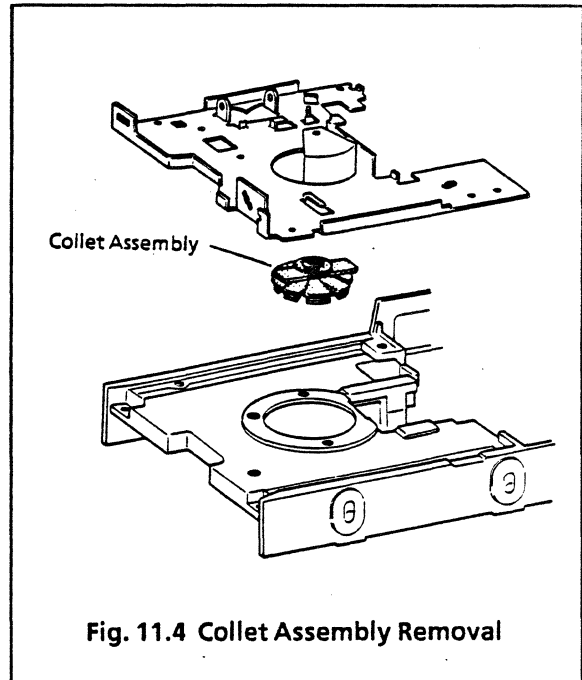

Fig. 11.4 Collet Assembly Removal
11.4 Collet Assembly Removal, Installation, and Adjustment (See Fig. 11.4)